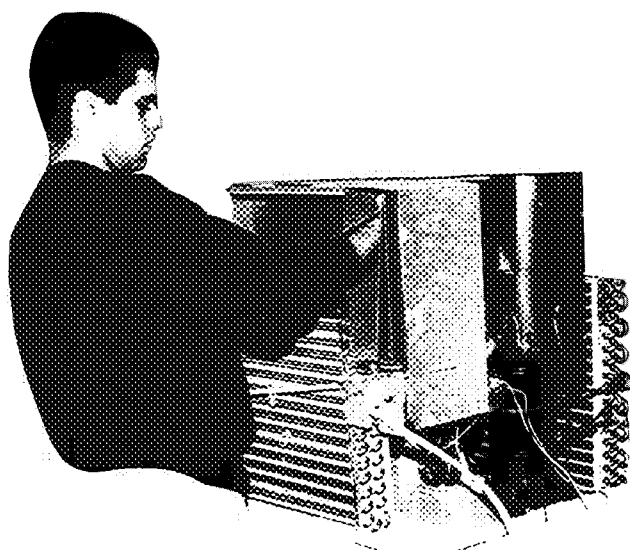

Fig. 19 – Removing Air Handling System
8. Carefully lift assembly from chassis. See Fig. 19.